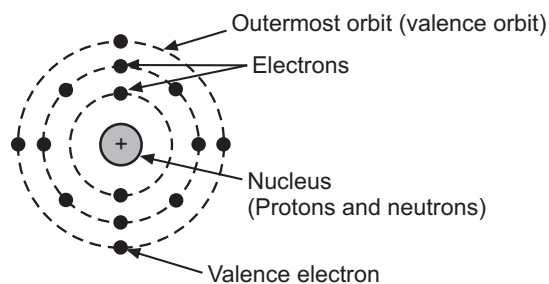

Fig. 1.1 : Structure of an atom
- The structure of an atom is as shown in Fig. 1.1.
- All the electrons of an atom do not revolve in the same orbit, but revolve around the nucleus in different orbits as shown in Fig. 1.1.